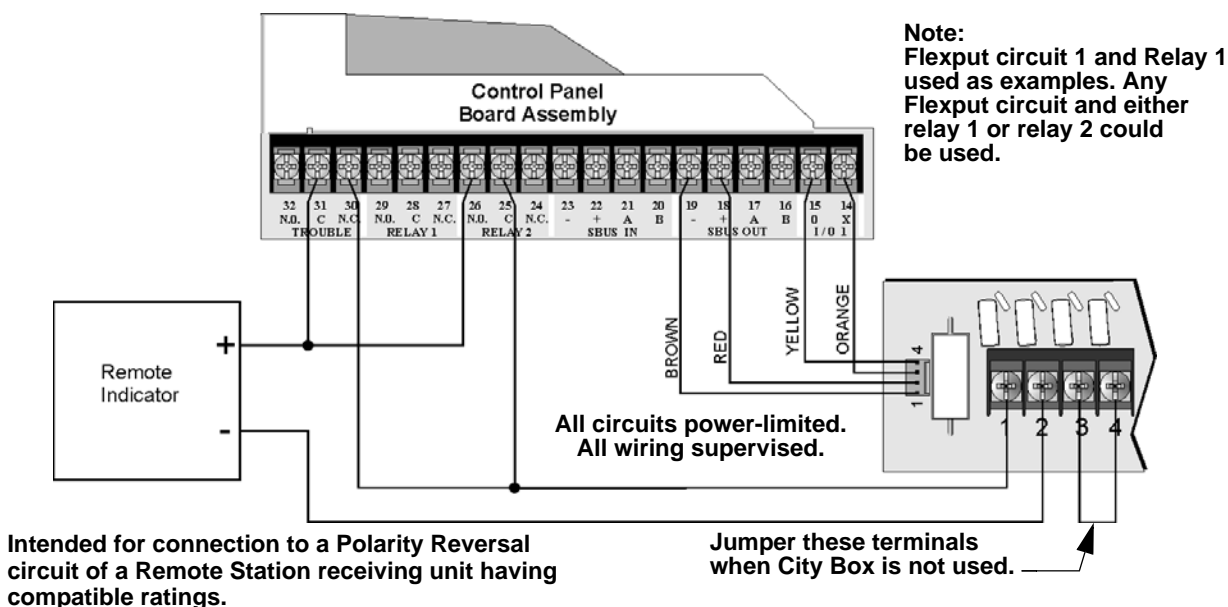

Figure 4-42 Polarity Reversal Connection Using the 5220 Module
2. Wire the 5220 to the control panel using the four-wire pigtail provided as shown in Figure 4-42. This diagram also shows how to connect the 5220 to the remote indicator. Do not install an EOL resistor in the terminals of the Flexput circuit used for this application.